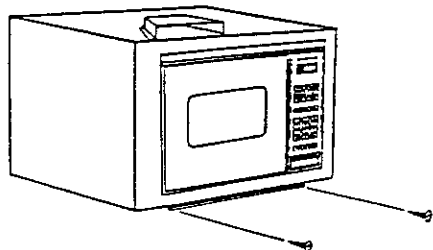

Fig. 6
- Attach rail to cabinet with 2 flat head screws (see Fig. 6).